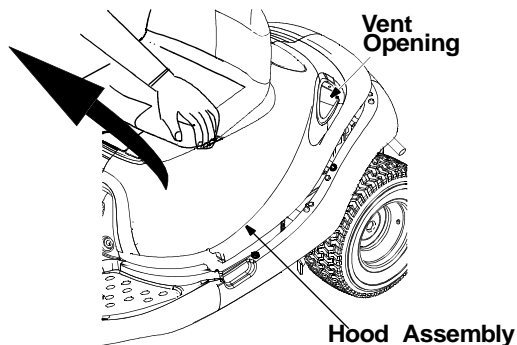

Figure 2
- To access the battery, lift the hood assembly from the left side of the hood only. Stand on the right side of the unit and pivot the hood assembly towards you until fully opened. See Figure 2 .